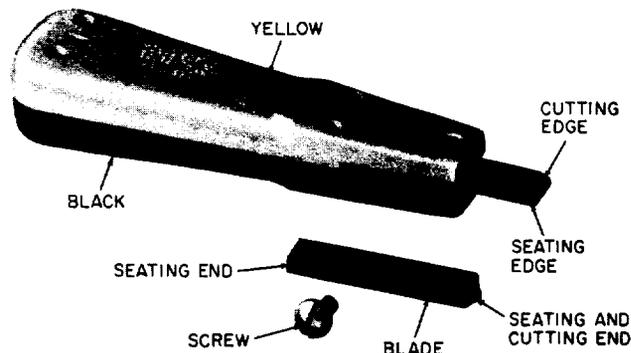

Fig. 1—B Impact Tool (MD)
- Blade, 8762B-66 [for B Impact Tool (MD)]
2.02 The B impact tool (MD) (Fig. 1), for use only on 66-type connectors, consists of a reversible steel blade attached by a single screw to a plastic handle. One end of the blade is used for seating and cutting conductors while the other end is used for seating only.